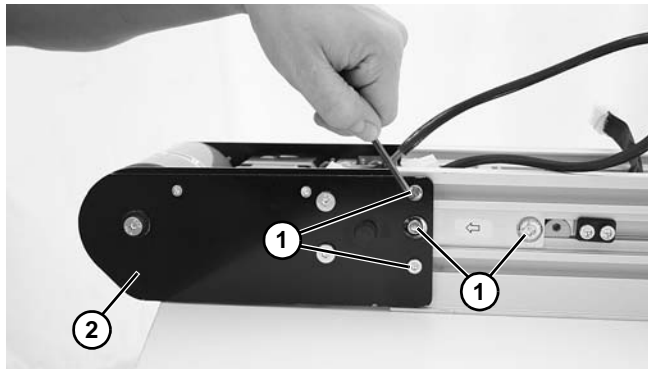

Figure 138
4. Loosen four screws (**Figure 138, item 1**) on each side of conveyor.
5. Remove drive tail assembly (**Figure 138, item 2**) from conveyor.